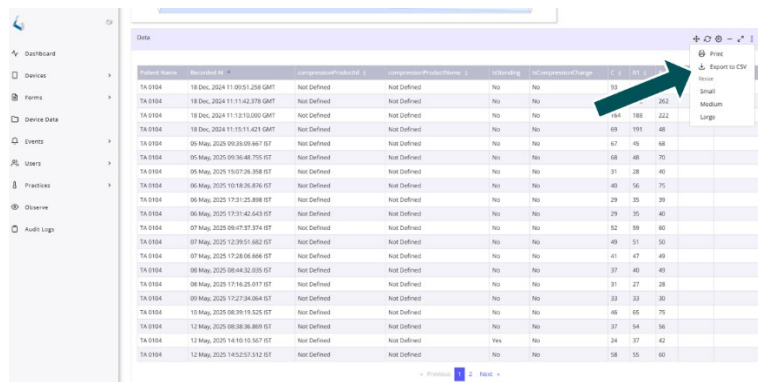

Figure 35. Device Snapshot data can be exported from the Web App as a .csv file.
- Once the intended device data is shown, click on the menu with the three dots in the top righthand corner of the **Data** table, and select **Export to CSV** (Figure 35). Timestamped data can then be processed via the resultant downloaded .csv file.